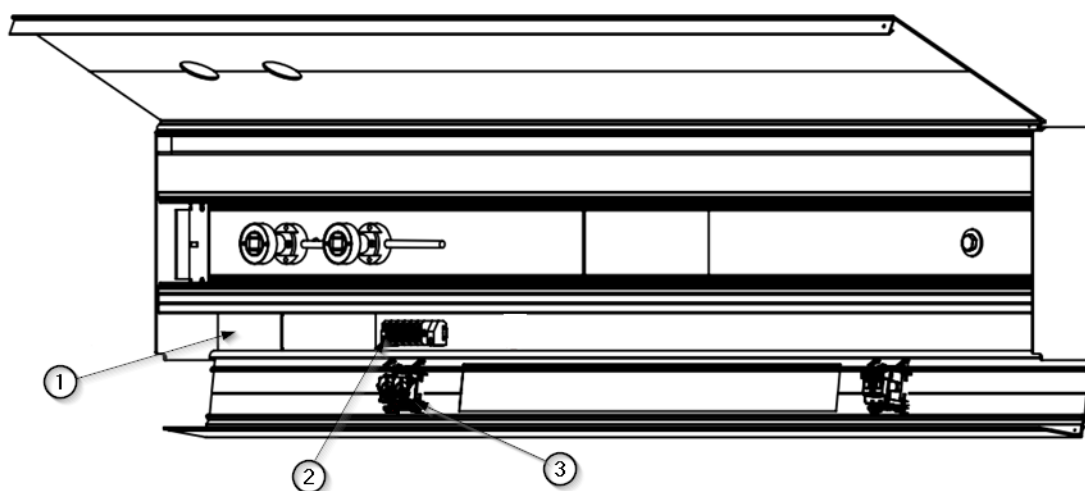

Fig.10 Detail of the electrical connection points on AIS
The electrical, voice and data circuits enter the equipment through a window ① whose dimension and location are detailed in the installation plan of the equipment. The electrical circuits terminate in a common terminal block ②, except for voice, data, whose connection is direct to the corresponding mechanism ③. See figure 10.